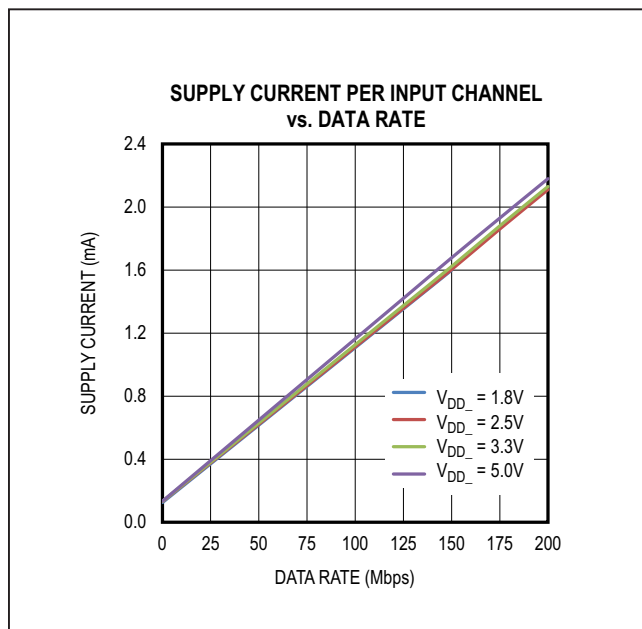
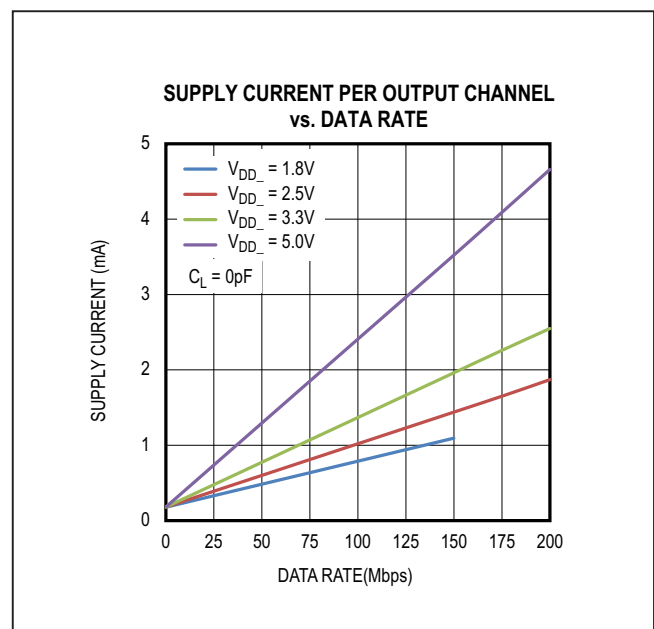

Figure 9. Supply Current Per Input Channel (Estimated)
Figure 10. Supply Current Per Output Channel (Estimated)
The required current for a given supply ( $V_{DDA}$  or  $V_{DDB}$ ) can be estimated by summing the current required for each channel. The supply current for a channel depends on whether the channel is an input or an output, the channel's data rate, and the capacitive or resistive load if it is an output. The typical current for an input or output at any data rate can be estimated from the graphs in Figure 9 and Figure 10. Please note the data in Figure 9 and Figure 10 are extrapolated from the supply current measurements in a typical operating condition.
The total current for a single channel is the sum of the “no load” current (shown in Figure 9 and Figure 10) which is a function of Voltage and Data Rate, and the “load current,” which depends on the type of load. Current into a capacitive load is a function of the load capacitance, the switching frequency, and the supply voltage.
- Channel 1 is an input channel operating at 2.5V and 20Mbps, consuming 0.33mA, estimated from Figure 9.
- Channel 2 and 3 are input channels operating at 2.5V with DC signal, consuming 0.13mA, estimated from Figure 9.
- Channel 4 is an output channel operating at 2.5V and 100Mbps, consuming 1.02mA, estimated from Figure 10.
- Channel 1 is an output channel operating at 3.3V and 20Mbps, consuming 0.42mA, estimated from Figure 10.
- Channel 2 and 3 are output channels operating at 3.3V with DC signal, consuming 0.18mA, estimated from Figure 10.
- Channel 4 is an input channel operating at 3.3V and 100Mbps, consuming 1.13mA, estimated from Figure 9.